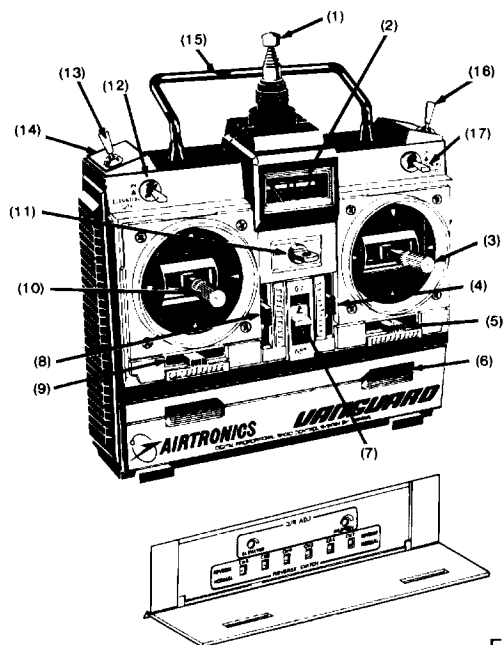

FIGURE 1
The VANGUARD 6 Channel Transmitter is equipped with Dual Rate functions on ailerons (17) and elevator (12) channels (see Figure 1). The amount of normal control action to a maximum 90° of servo rotation is set with the associated "D/R" adj. trimmers on the panel. The use of low rate on these primary flight controls will generally help in flying smoother maneuvers, since it will reduce the servo throw even when the control sticks are moved to their maximum position. Use a small screwdriver when adjusting the dual rate trimmers on the panel. Be careful not to apply a tremendous amount of pressure to the trimmer since it should turn easily.